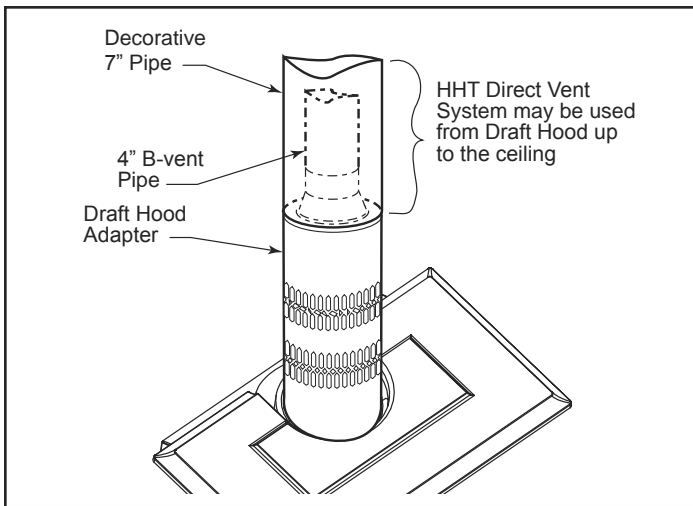

Figure 38 - Decorative 7" pipe may be fitted around the B-vent pipe.
- Vertical installations up to 40' (12 m) in height. Up to a 10' (3 m) horizontal vent run can be installed within the vent system using a maximum of two 90° elbows. *Figure 38*
- A minimum of an 8' (2.5 m) vertical rise is required. (Figure 38)
- Two sets of 45° elbow offsets may be used within the vertical sections. From 0 to a maximum of 8' (2.5 m) of vent pipe can be used between elbows. *Figure 38*
- For the minimum height of the vent above the highest point of penetration through the roof refer to *Figure 38*.
The heater is approved for installation as a Natural Vent. Hearth and Home Technologies Direct Vent pipe could be used directly after the Draft Hood Adapter up to the ceiling, then B-vent pipe must be used. Do not mix types of B-vent pipe; use components from one maker or the other. Follow the vent component maker's instructions exactly. The heater will also accept standard or enameled 7" (150 mm) diameter pipe, around the Type B venting, for decorative purposes only. (Figure 38)